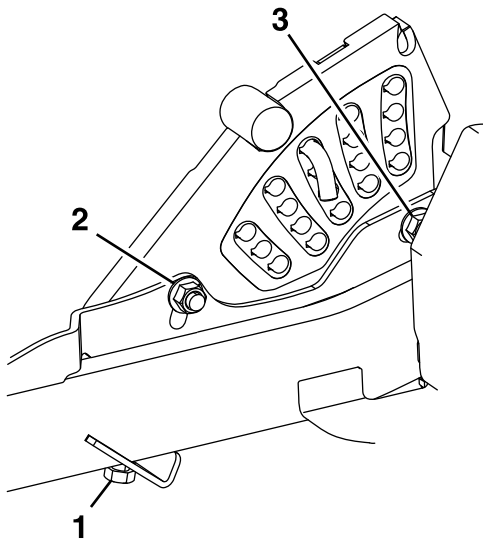

Figure 73
7. If the deck is too low, tighten the single-point adjustment bolt by rotating it clockwise (Figure 73).